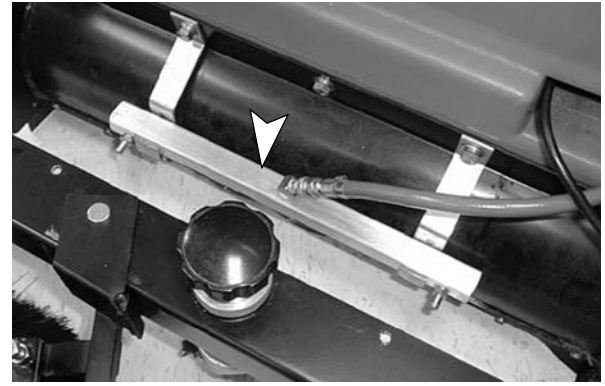

FIG. 35
- e. Remove detachable spray bar from machine. Remove spray tips from spray bar and soak in a tannin solution for up to 2 hours. After soaking tips, use a small brush to remove excess alkaline and rinse thoroughly. DO NOT use pointed objects to unplug spray tips (Figure 35).